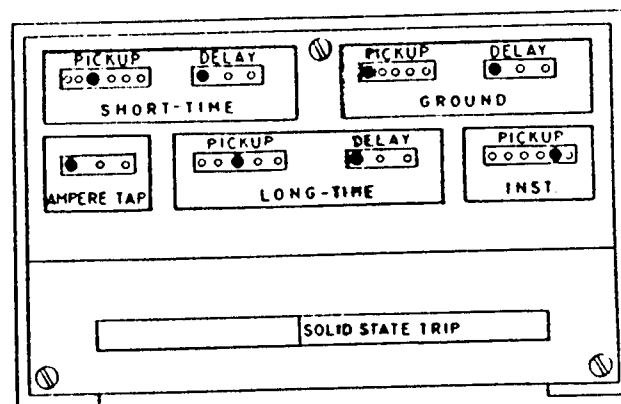

Fig. 19 — Solid State Overcurrent Trip Device Type SS-5G Shown
1. Turn adjusting screw (1) out as far as possible so that the circuit breaker will not trip when the magnetic latch trips.
2. Remove the terminal block cover on the solid state assembly by removing two lower screws (Fig. 19). Disconnect two wires at terminals 15 and 16.
4. While lightly holding down at point "A" so that the lever (2) does not move through its full stroke and trip the circuit breaker, momentarily apply the voltage (3V) from two dry cell batteries, size "D", to the two wires (+ to wire 16, — to wire 15) that were disconnected in operation 2. The magnetic latch should trip.
5. Gradually release the hold on lever (2).
6. While holding the lever (2) in the tripped position, turn in on screw (1) until the circuit breaker just trips, then turn in one additional turn.
OVERCURRENT TRIP DEVICE SETTINGS (See Fig. 19)